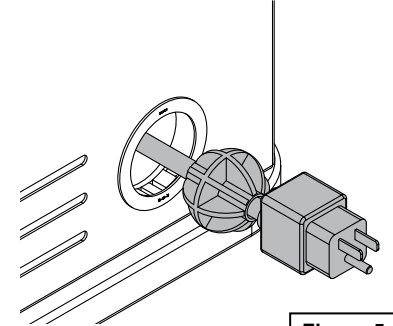

Figure 5
1. Route the power cord through the side panel grommet. **Figure 5.**